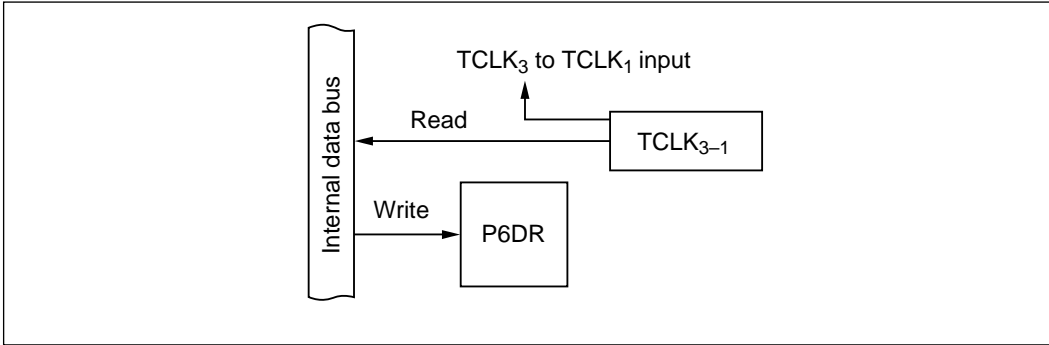

Figure 10-41 TCLK₃ to TCLK₁ Input Combined with General-Purpose Input (Modes 1 to 7)
(6) Timer Clock Input Combined with General-Purpose Input (P6₄ to P6₂: Modes 1 to 7): Figure 10-41 shows a block diagram illustrating the TCLK₃ to TCLK₁ input function of P6₄ to P6₂ when combined with general-purpose input. Table 10-32 indicates register read/write data. When P6₄ to P6₂ are used for TCLK₃, TCLK₂, and TCLK₁ input they can also be read as general-purpose input ports, to monitor the input level at TCLK₃ to TCLK₁.